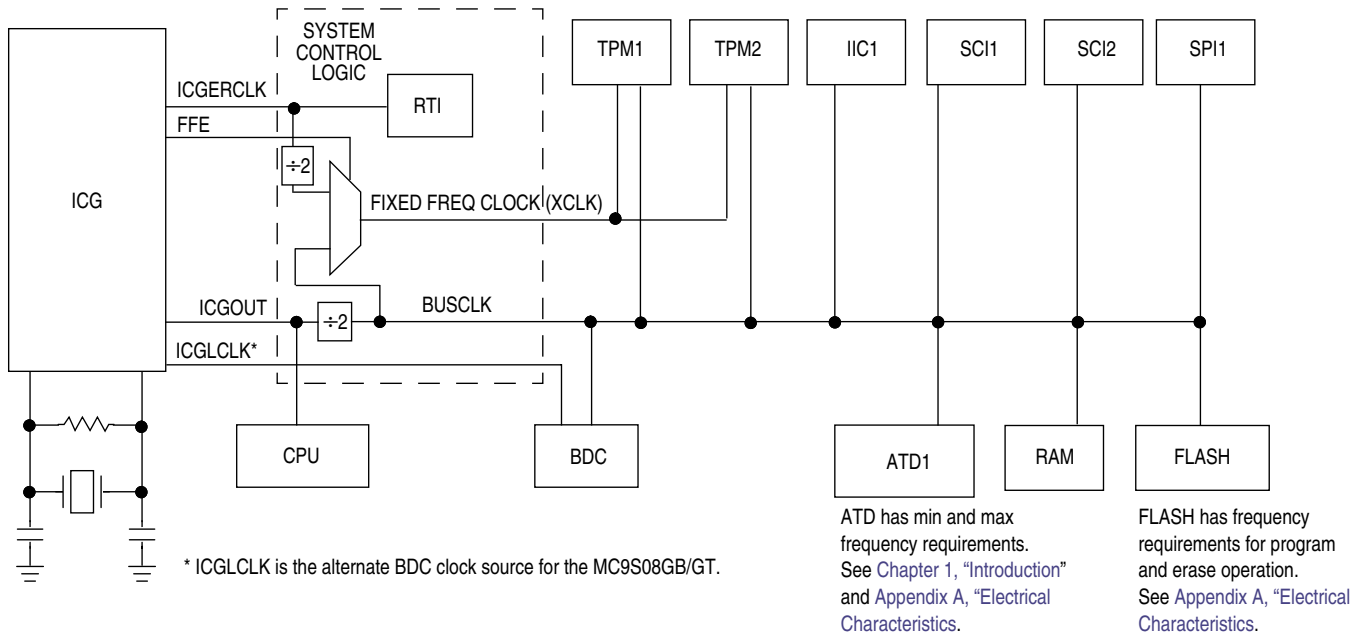

Figure 7-1. System Clock Distribution Diagram
1. See Figure 7-1 for specific use of ICGOUT, FFE, ICGLCLK, ICGERCLK